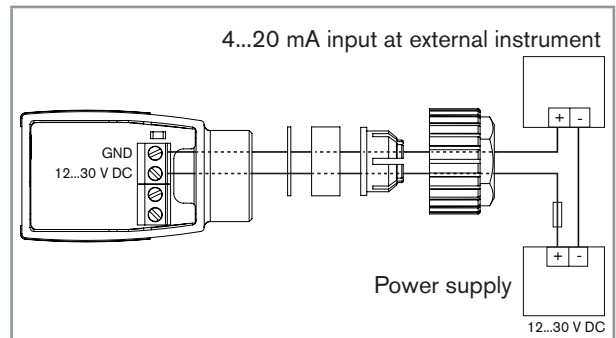

Fig. 2: Device with cable gland – Connection of the current output
- Connect the 4...20 mA current output. Refer to Fig. 2.